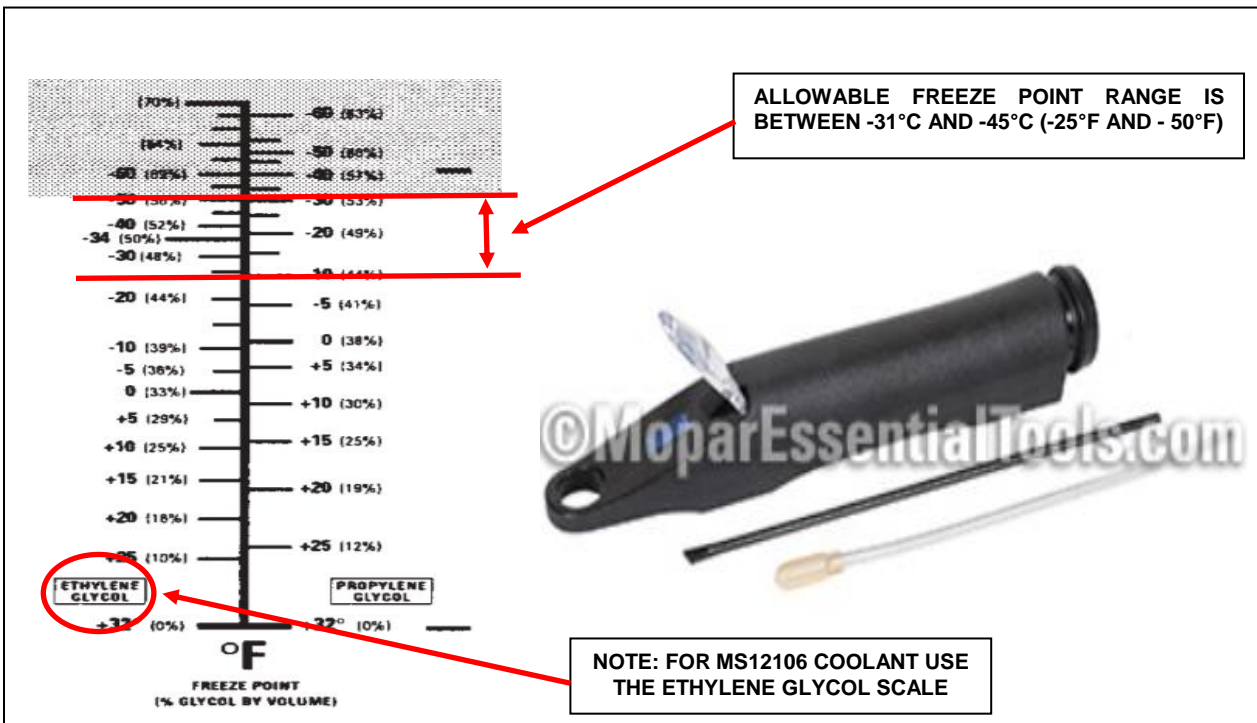

Figure 39 - Refractometer 8286 or Equivalent
- a. Using Refractometer 8286 or equivalent, following the manufacturer’s instructions, test the coolant freeze point (Figure 39).